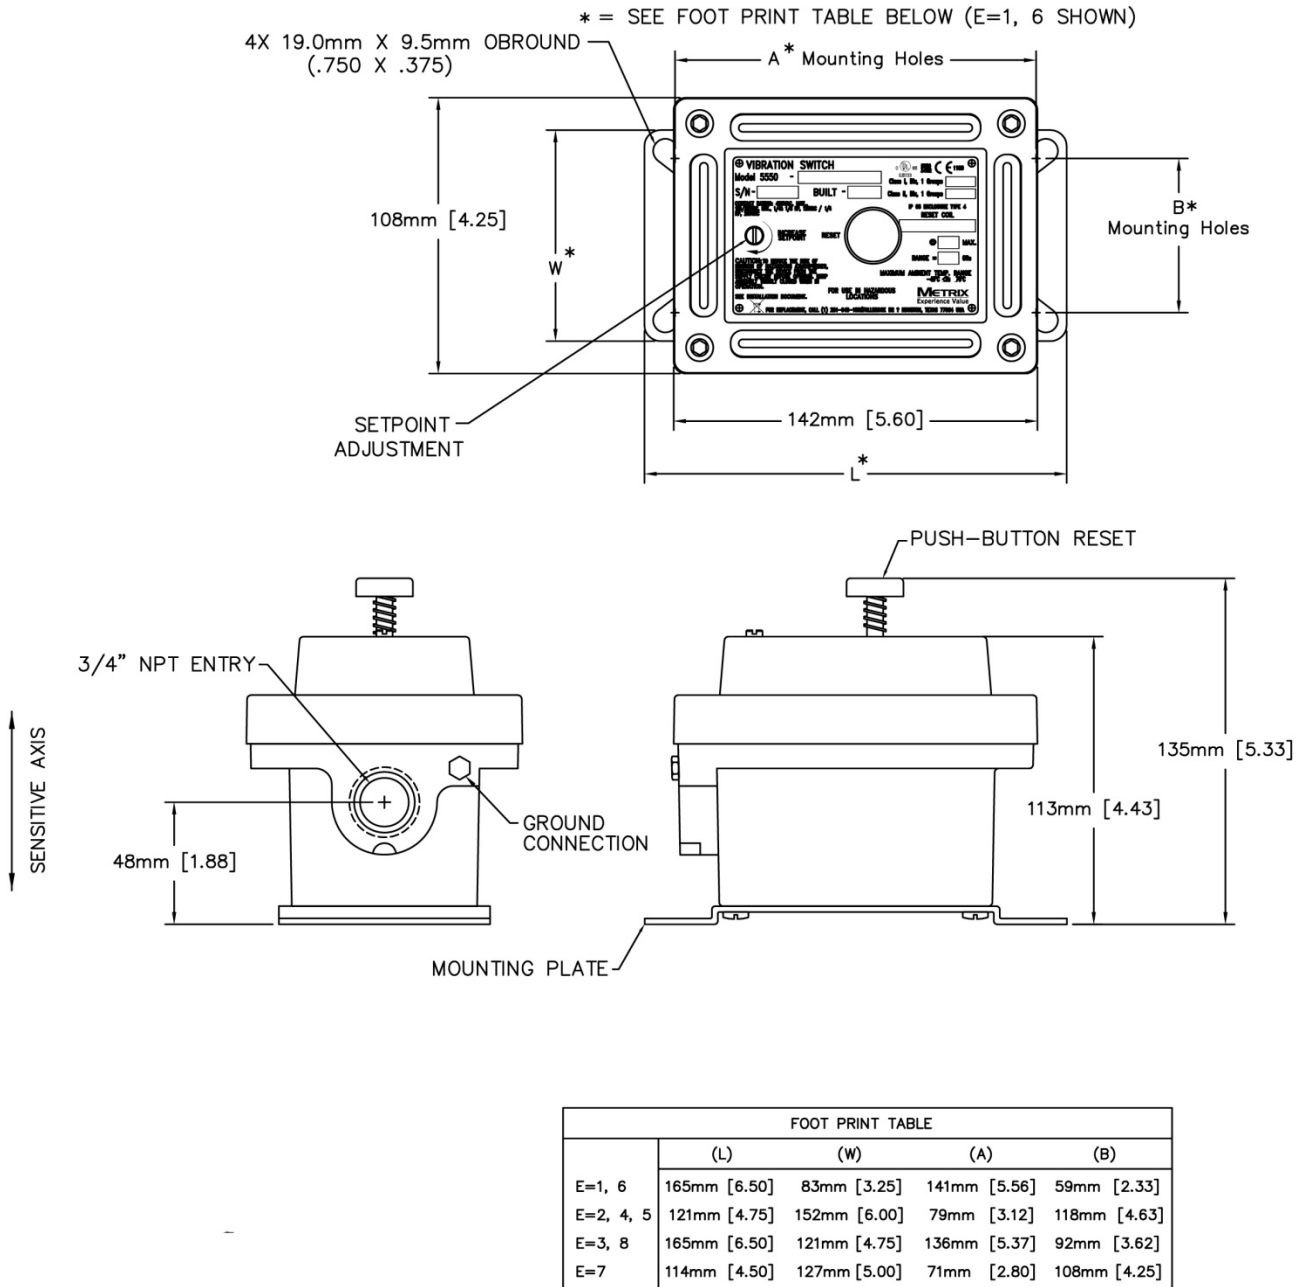

Figure 1 – 5550 Mechanical Vibration Switch.
- When options C=2 and D=3 are simultaneously specified (2g, 24Vdc reset coil), the switch sensitive axis (see Figure 1) MUST be oriented vertically with the cover facing up. This coil lacks sufficient holding strength to support the trip plate when the switch is mounted horizontally or upside down. The switch may be mounted at any orientation for all other options.
- Consult Figure 1 for mounting plate dimensions corresponding to E options.